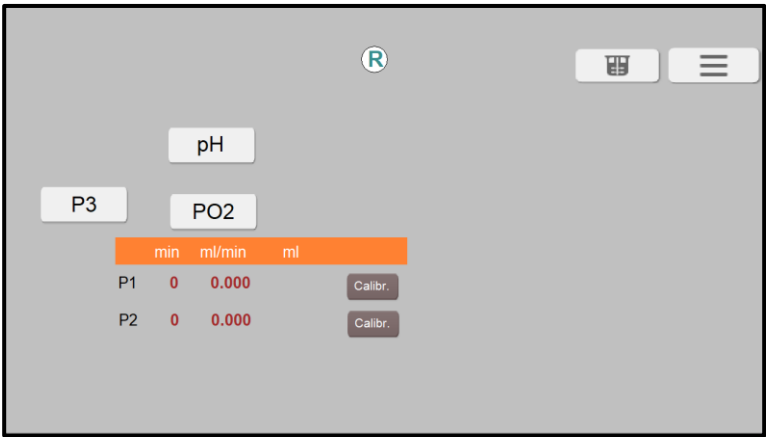

Figure 0.25. Pump 1 (P1) and pump 2 (P2) calibration window
- 5) Use buttons **P1**, **P2** or **P3** to select the desired pump for calibration (see Figure 0.25);
- 3) After the defined calibration time runs out the pump will switch off. Enter the liquid volume measurement, which was transferred during the calibration procedure into the **mL** field and press the **OK** button (see Figure 0.25);